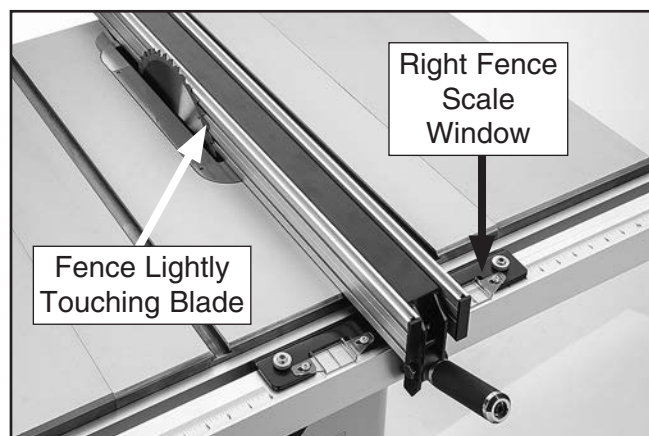

Figure 31. Fence scale calibration.
19. Slide fence so it lightly touches right side of blade (see **Figure 31**). Do not lock fence.
20. Nudge fence rail so zero mark of scale on right lines up with cross-hair in fence scale window (see **Figure 31**).